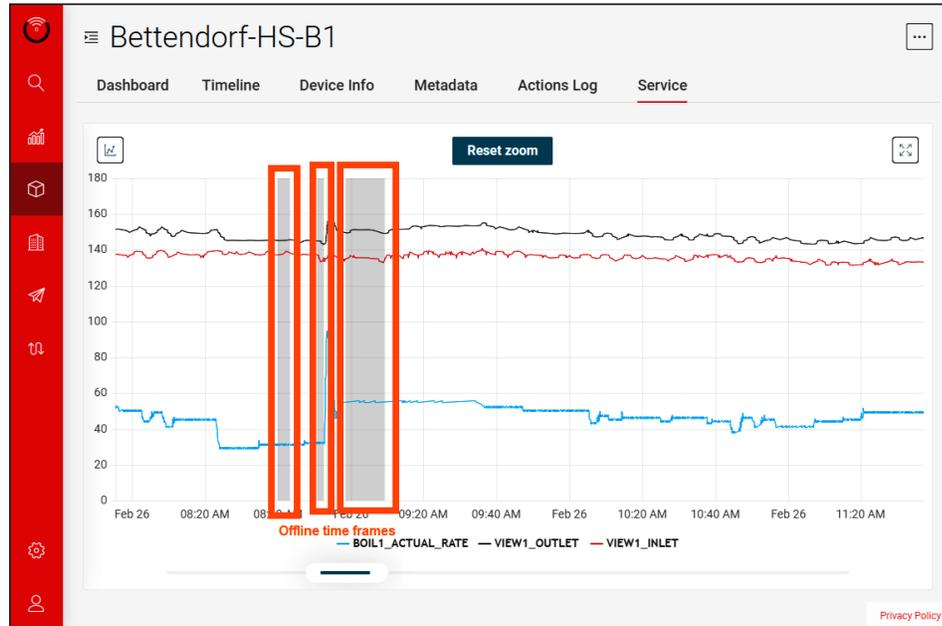

Figure 83. Temporal Discontinuity Illustration
9. Please note that certain time frames the unit might be offline or disconnected from network, such time frames are grayed out on graph. See **Figure 83**.